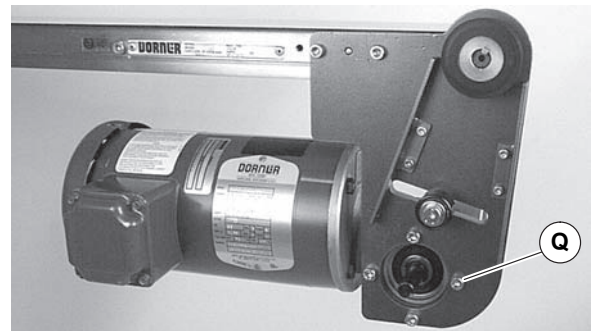

Figure 21
4. Remove four (4) gear reducer mounting screws (Figure 21, item Q). Remove gearmotor.
12. Install gearmotor to mounting bracket and tighten screws (Figure 21, item Q) to 103 in-lb (12 N-m).